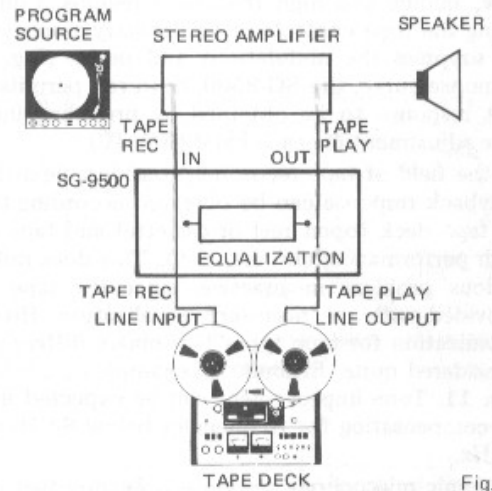

Fig. 7
**TAPE RECORDING OR PLAYBACK WITHOUT EQUALIZING THE PROGRAM SOURCE (Fig. 7)**